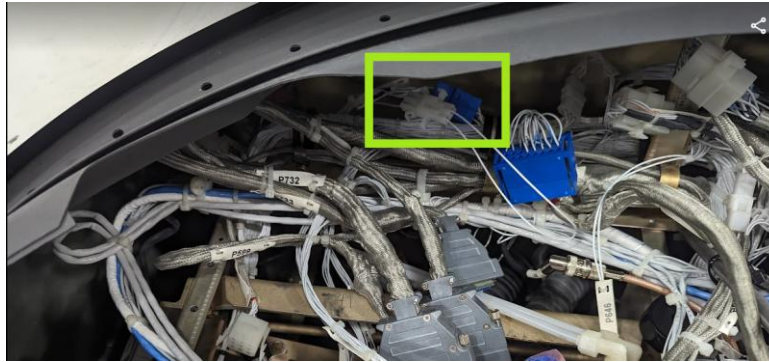

Figure 3-1: P685 Connector Location
- a. This blue connector should be located near the firewall, forward of the PFD (see image below - Figure 3-1: P685 Connector Location)